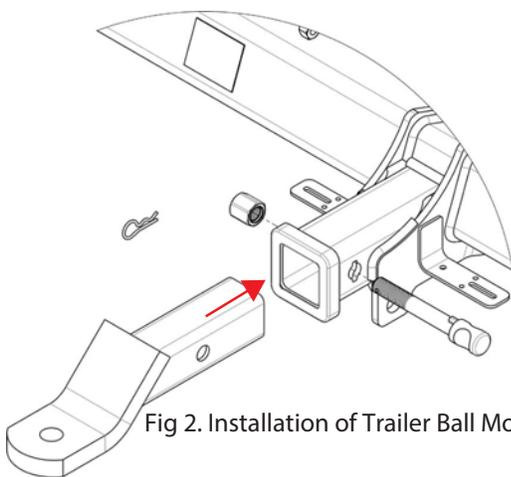

Fig 2. Installation of Trailer Ball Mount
**STEP 1** Insert Trailer Ball Mount (TBM) into towbar HITCHBOX, aligning hole in TBM SHANK with hole in HITCHBOX (Fig. 2).